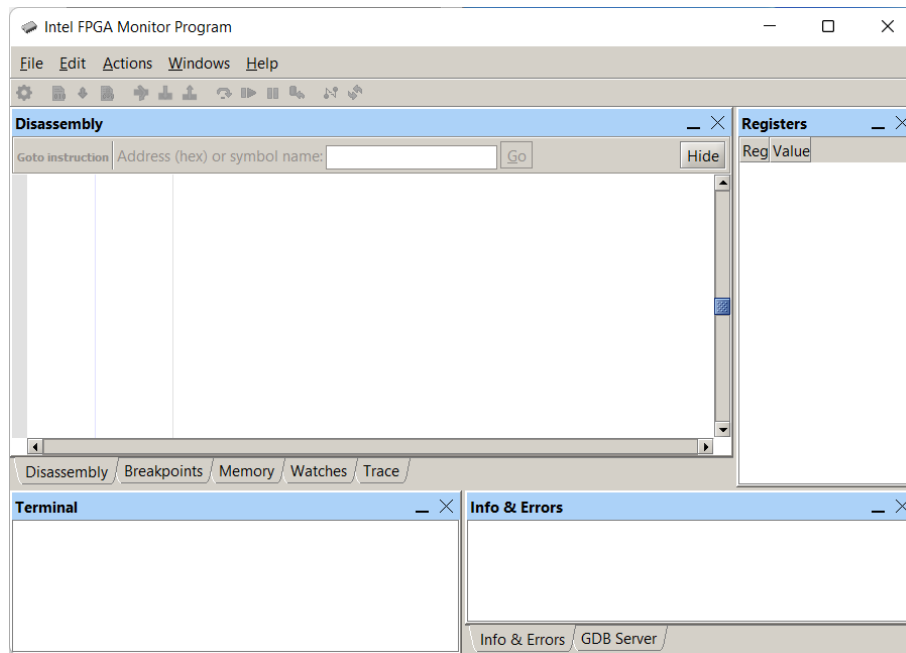

Figure 1: The *Monitor Program* window.
2. Open the *Monitor Program* software, which leads to the window in Figure 1.
Now, we will explore some features of the Monitor Program. You will notice that the discussion below makes use of the ARM assembly-language examples that were used in Laboratory Exercise 1. This is because we are reusing those examples, so that you are already familiar with them and have access to the code. Figure 9 shows the code for a program that finds the largest number in a list of 32-bit integers. This code is reproduced from Figure 1 of Lab 1.